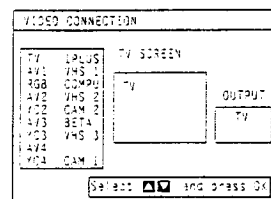

Fig. 42.
- 1 Select Video Connection with $\Delta+$ or $\nabla-$ and press OK. The VIDEO CONNECTION menu appears. (See Fig. 42)